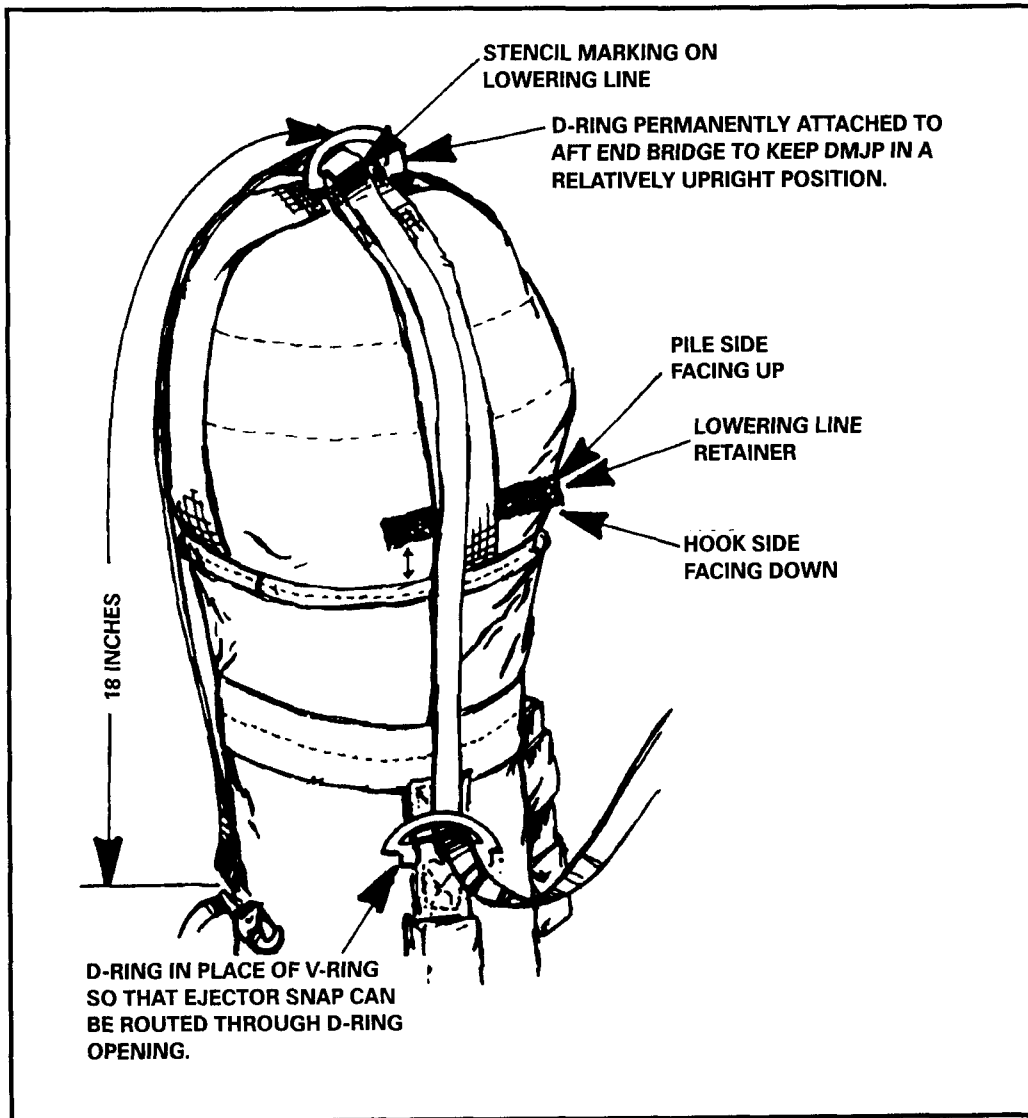

Figure 12-46. DMJP modified with D-ring.
a. To secure the 15-foot HPT lowering line, grasp the ejector snap of the HPT lowering line. Route it (from bottom to top) through the D-ring openings at the pack body and aft end locations. Position the 18-inch strata blue marking on the HPT lowering line even with the D-ring on top of the DMJP (Figure 12-46).